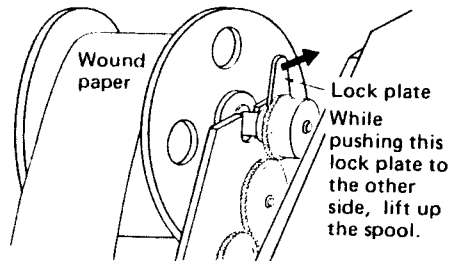

Fig. 3
2. The journal paper is rolled around the take-up reel. Push the lock lever to the other side and lift up the reel. (Fig. 3)
5. When replacing the pad, make sure it is not up-side down. (If up-side down, it cannot be set in position.) Insert it downward until it stops. (Fig. 3)